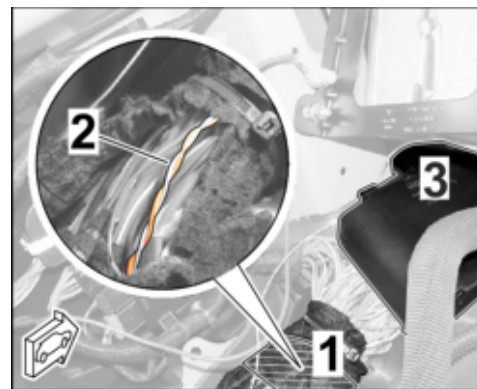

Figure 17
2.5.1 Carefully remove top of the winding of the wire harness in the rear left wheel housing cable duct (luggage compartment) area. ⇒ *Figure 17*
2.5.2 Carefully expose twisted CAN lines OR/BN; 0.35² (CAN Low) and GR; 0.35² (CAN High) to the TirePressureMonitor control unit (TPM, 7K3). ⇒ *Figure 17 -2-*